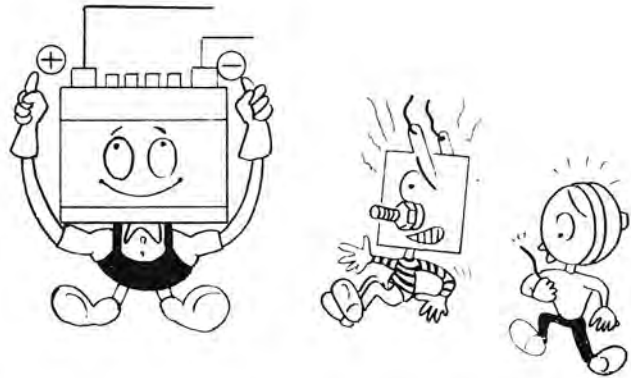

Fig. 14
1. When connecting the battery, be sure the terminals are correctly connected. Because if the terminals are connected reversely, the semi-conductors such as transistors, and thyristor in this system will be seriously damaged. (Fig. 14)